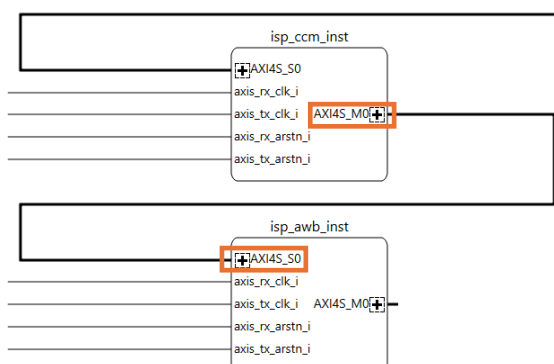

Figure 7.13. Lattice Propel Builder Connection Update for UVSI
5. The unified video streaming data width is updated, resulting in the existing UVSI connections to be disconnected. Reconnect `isp_awb_inst` AXI4_S0 to `isp_ccm_inst` AXI4S_M0 as shown in Figure 7.13.